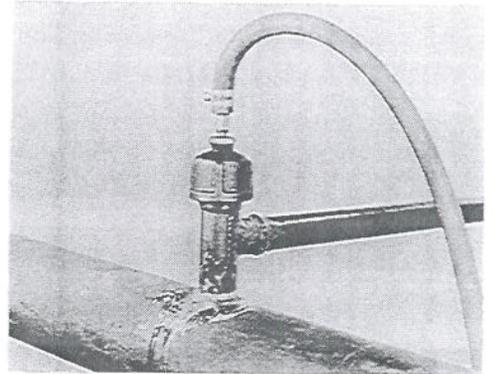

FIGURE 8
2. Apply air pressure and test for leaks with soapsuds (add glycerin in freezing weather) or bubble type leak detection fluid. **Figure 8.**